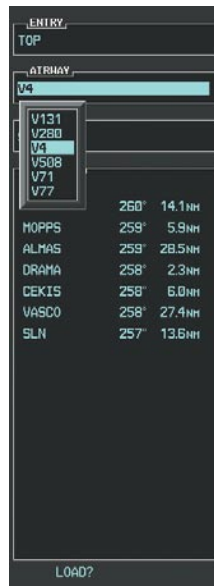

Figure 5-109 List of Available Airways for TOP
f) Select the **LD AIRWY** Softkey to display the list of available airways for TOP as seen in Figure 5-109.
g) Turn either **FMS** Knob to highlight V4 in the list as seen in Figure 5-109.